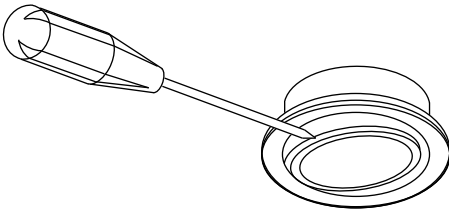

Fig 13
**12V halogen G4 attachment:** Use a screwdriver to unscrew the glass support ring (Fig 13 & 14). Remove the glass and change the light bulb. Replace the protective glass and screw back the ring. The light bulbs can be purchased in any electrical supply shop.